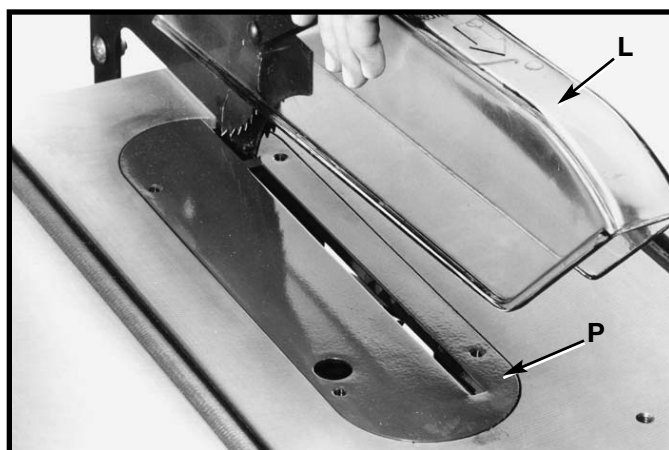

Fig. 34
11. Lower saw blade and install table insert (P) Fig. 34, in the saw table. **IMPORTANT:** When installing the table insert, make certain to hold on to the blade guard (L). The insert will automatically release the holding action on the splitter and lower the blade guard when the insert is installed in the table opening.